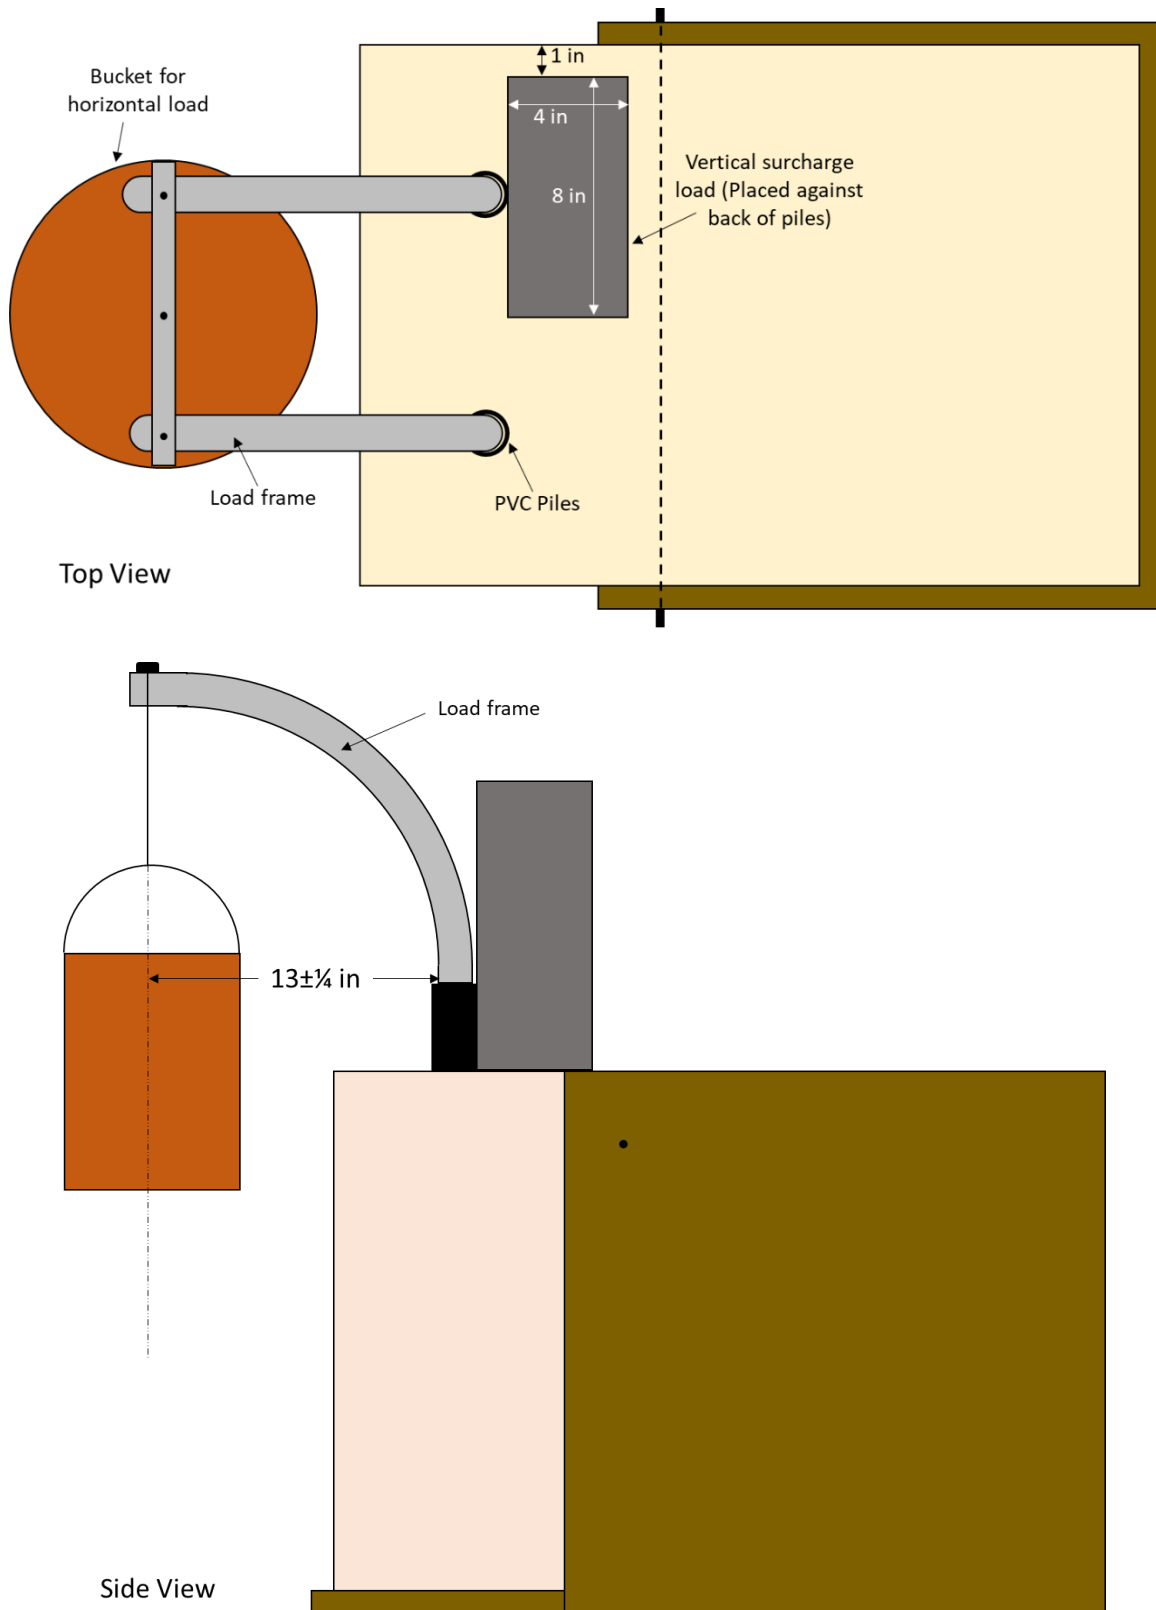
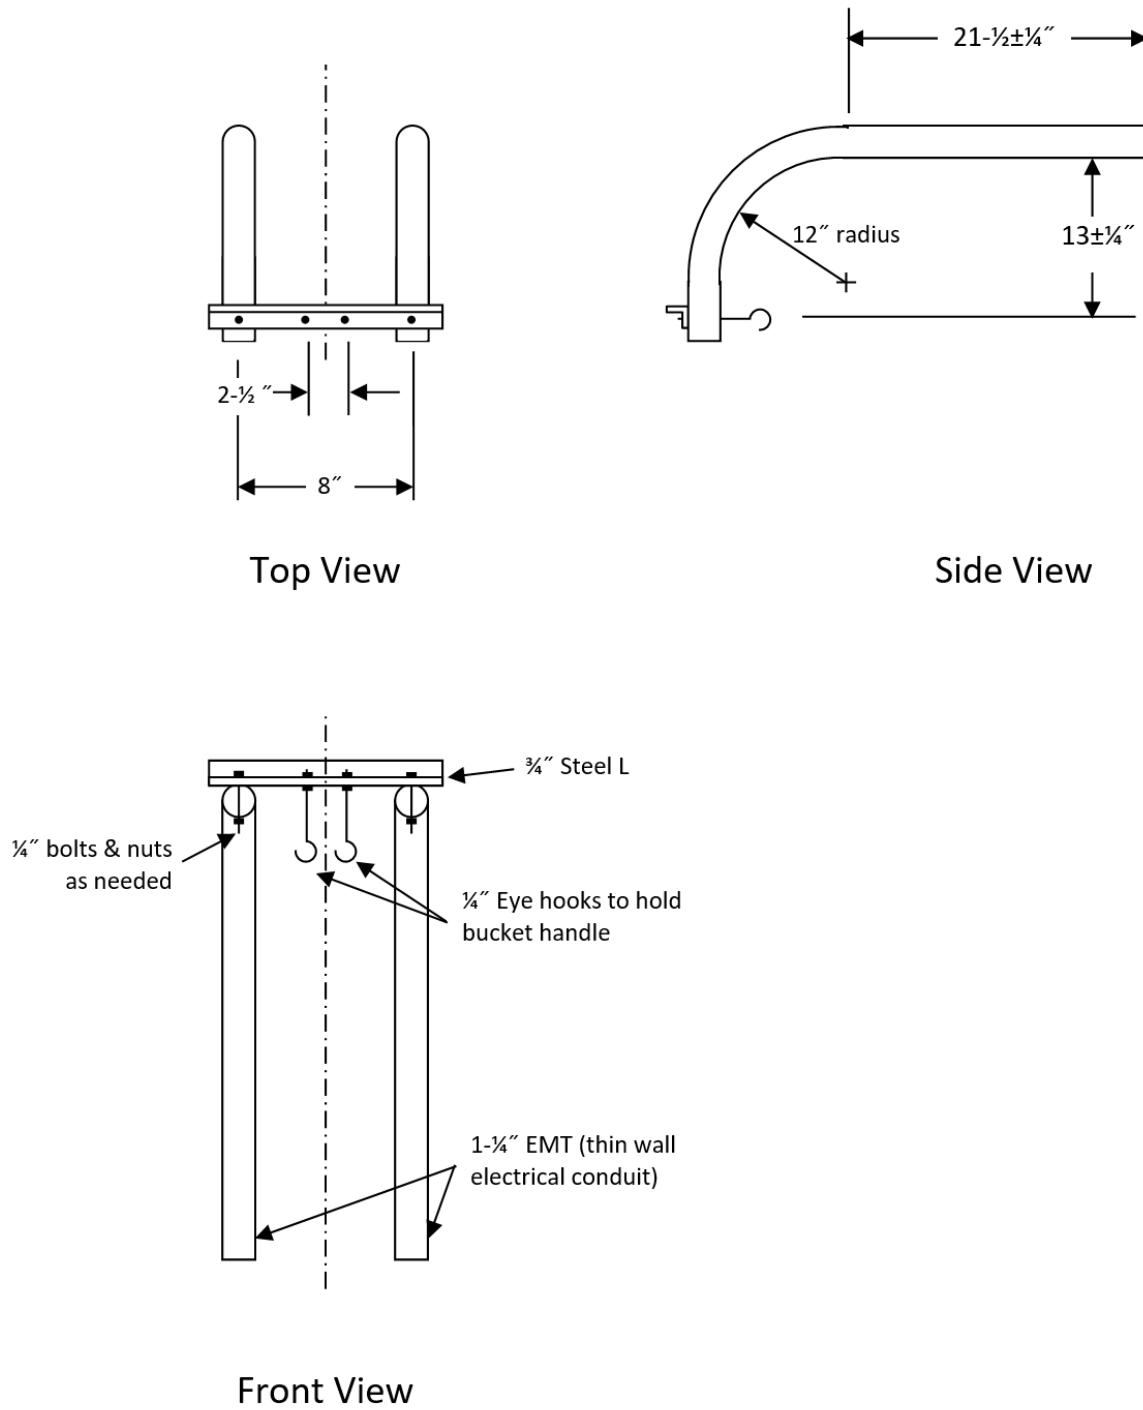

Figure 3: Load Placement (not to scale)
Figure 4: Dimensions of Horizontal Load Frame (not to scale)
- d) **Loading Stage** – Details of the load placement are shown in Figure 3. This stage occurs in three steps: 1) removal of front and side panels, 2) placement of 50 lb vertical surcharge, and 3) placement of the 20 lb static horizontal surcharge load in an empty 5 gallon bucket on the loading frame. During each step, the wall will be checked for the following three criteria: 1) excessive deformation (any portion of the wall extending outside imaginary planes extending vertically from the base of sandbox), 2) excessive soil leakage (more than 30 cm³ of sand passing out of the sandbox), and 3) catastrophic failure. The team will be penalized for excessive soil loss and excessive deformation, but will be disqualified for a catastrophic failure.
- i) When directed by the judge, the team shall remove the front and side panels of the sandbox. After the panels are removed, the judge will wait one (1) minute and then check the three criteria.
- ii) If the wall does not fail catastrophically, the team will then place 50 lbs of sand in the vertical surcharge platform (see Appendix B for the platform details). The team will have one (1) minute to place the load. After the load is placed, the judge will wait one (1) minute and then check the three criteria.
- iii) If the wall does not fail catastrophically, the team will hang an empty 5 gallon bucket on the loading frame and place 20 lbs of sand in the bucket (see Figure 4). The team will have one (1) minute to complete this loading sequence. After the sequence is complete, the judge will wait one (1) minute and then check the three criteria. The horizontal load frame will be provided by the competition organizers. Teams should not bring their own load frames to the competition.